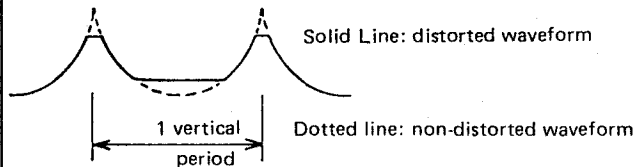

Fig. 6
During this adjustment, there should be no distortion in the amplitude as shown in Fig. 6. If there is, repeat (1) to (5).